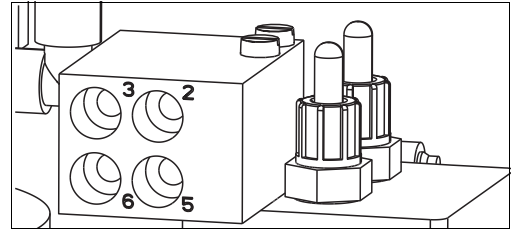

Fig. 12: Pneumatic terminal block
2. Plug the compressed air hoses into the corresponding fittings. Refer also to the identical numbers engraved directly on the corresponding input (resp. output) on the terminal block (Fig. 12).